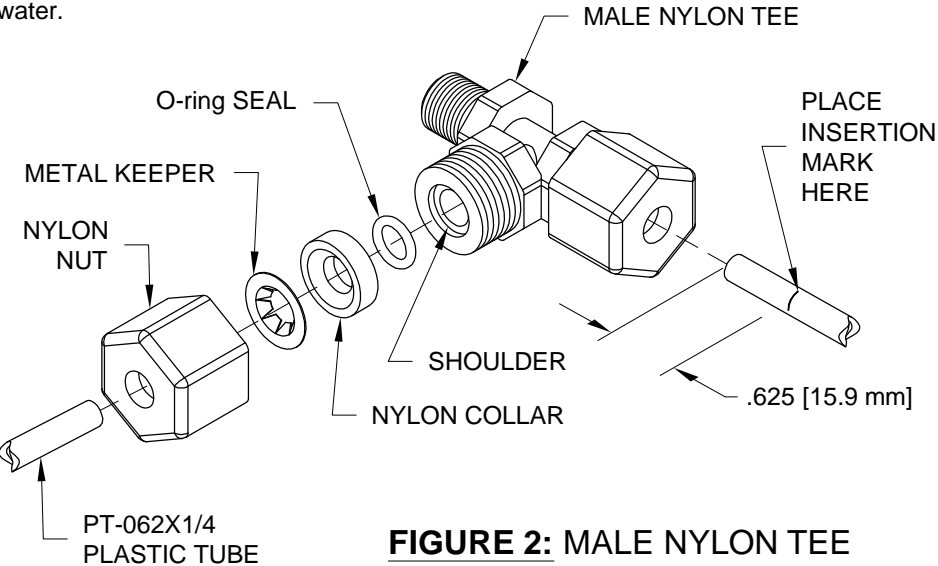

FIGURE 2: MALE NYLON TEE
- Step 2: Place insertion mark .625 [15.9 mm] from end of tube. See Figure 2. Moisten marked end of tube with water.